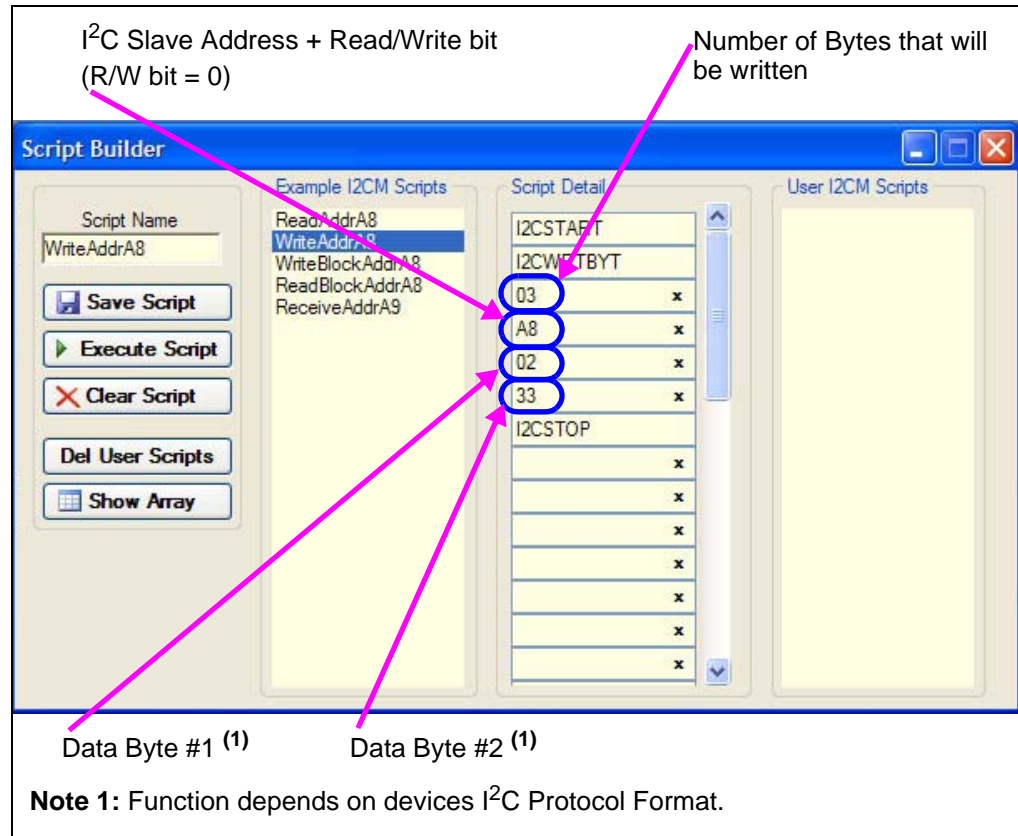
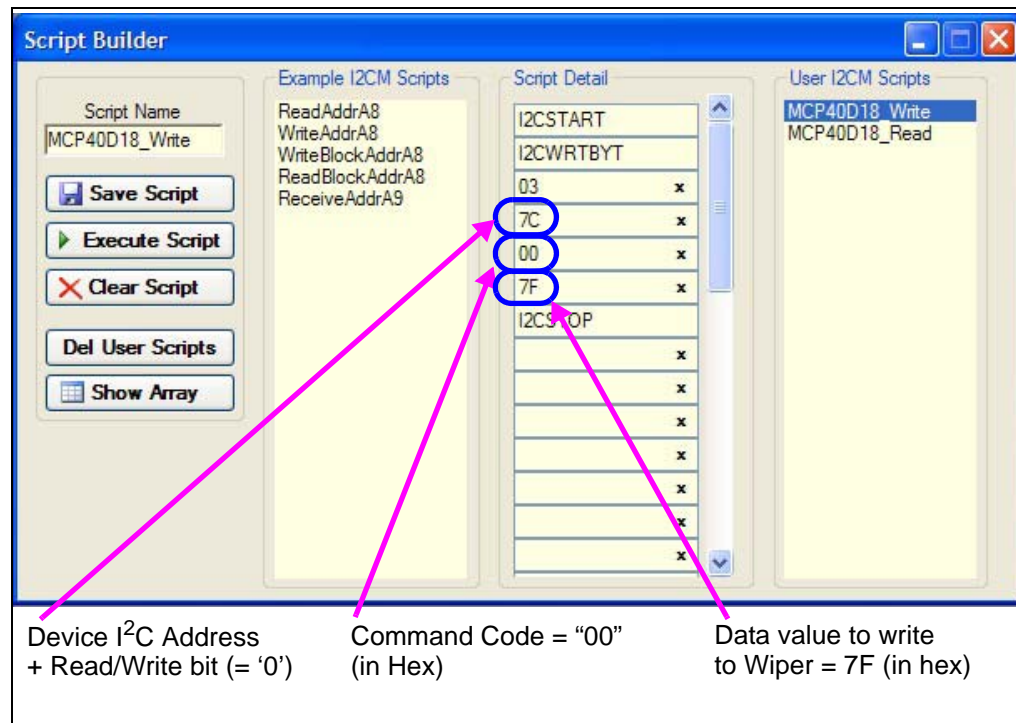

FIGURE 2-9: Example Write Script.
FIGURE 2-11: MCP40D18 Write Script File.
Double clicking on the WriteAddrA8 Example I2CM Script will load the Script Details. Figure 2-9 shows what the values mean in the Script Details. These values are hex numbers.
To create the write script for the MCP40D18, double click on the WriteAddrA8 script in the “Example I2CM Scripts” column. This loads the script (see Figure 2-9) into the “Script Detail” column. Modify the script details so that it looks like Figure 2-11. Then, in the “Script Name” write the name that you would like to call the script. We chose “MCP40D18_Write” (see Figure 2-11).
Then click on the “Save Script” button. This will save the script, which can then be accessed under the “User I2CM Scripts” column (see Figure 2-11). This script will be available when the GUI is opened in the future (unless the script has been cleared or deleted).
Then click on the “Save Script” button. This will save the script, which can then be accessed under the “User I2CM Script” column (see Figure 2-11). This script will be available when the GUI is opened in the future (unless the script has been cleared or deleted).
8. Double click on the “WriteAddrA8” script in the “Example I2CM Scripts column. This loads the Script Detail column (see Figure 2-9).